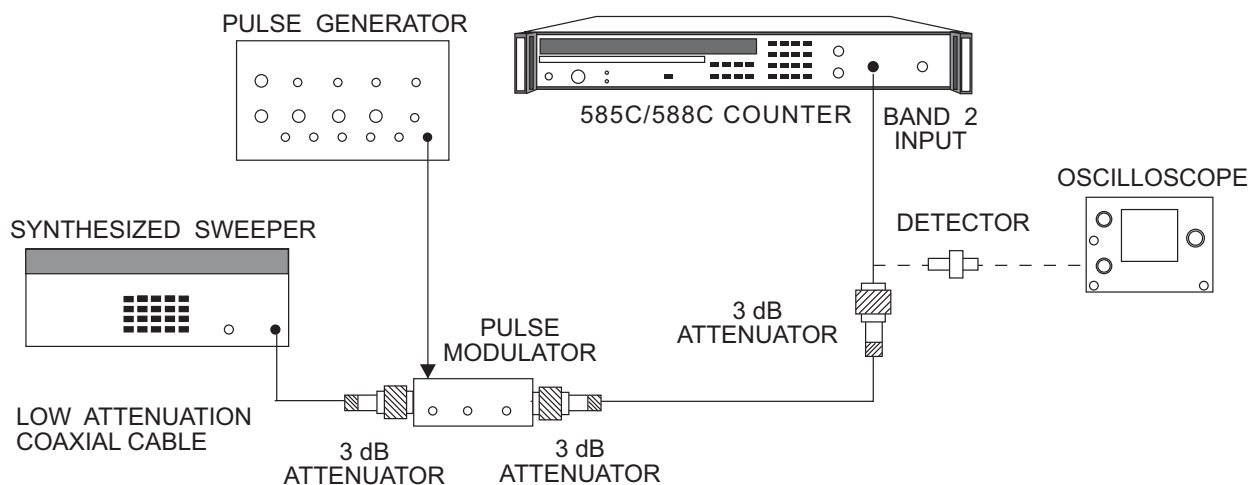

Figure 6-19. Pulse Period Accuracy Test Setup
1. Connect the equipment as shown in Figure 6-19. The 3 dB attenuators should be at the IN and OUT ports of the pulse modulator and the input to the counter. Turn the equipment on.